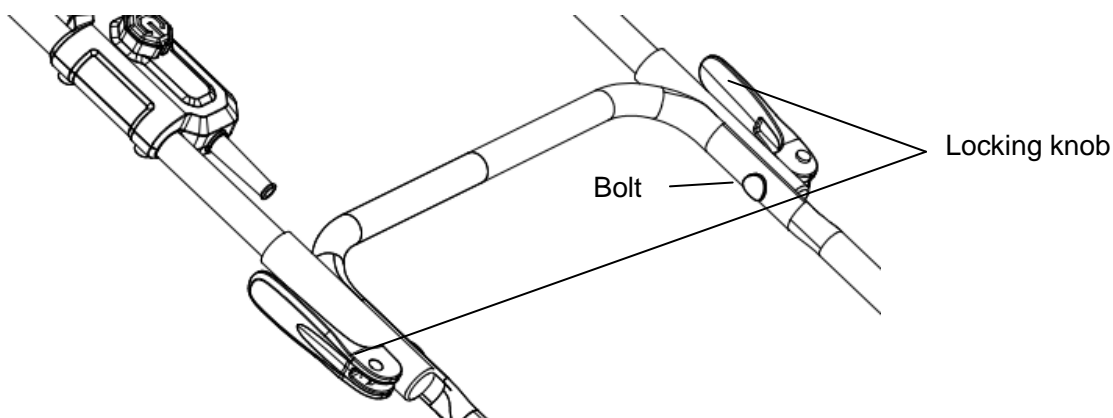

Fig. 2B
2. Push the locking knob closed to lock the handlebars in the operating position. (Fig. 2B)
3. Attach the cable clamp to the position shown and then attach the cable. (Fig.2B)